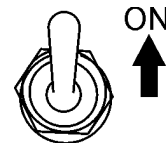

Figure 14. Operation Switch (ON)
6. Place the generator's operation switch (Figure 14) in the **ON** position.